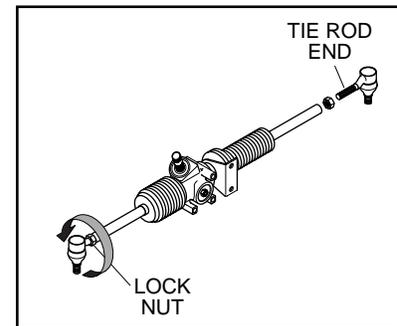

Figure 4
- Loosen the tie rod end lock nuts (Figure 4).